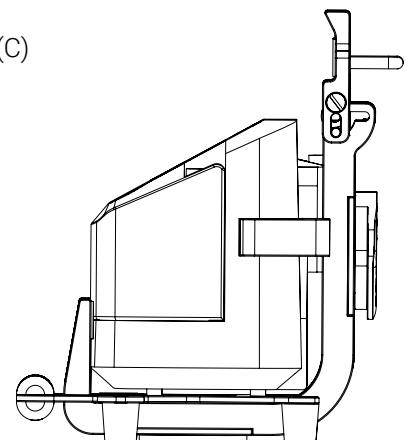

Figure 8: Unlocking and opening the mounting system
1. Press and hold the quick release button of the mounting system (Figure 8 A), then flip the top towards the back (Figure 8 B and Figure 8 C).